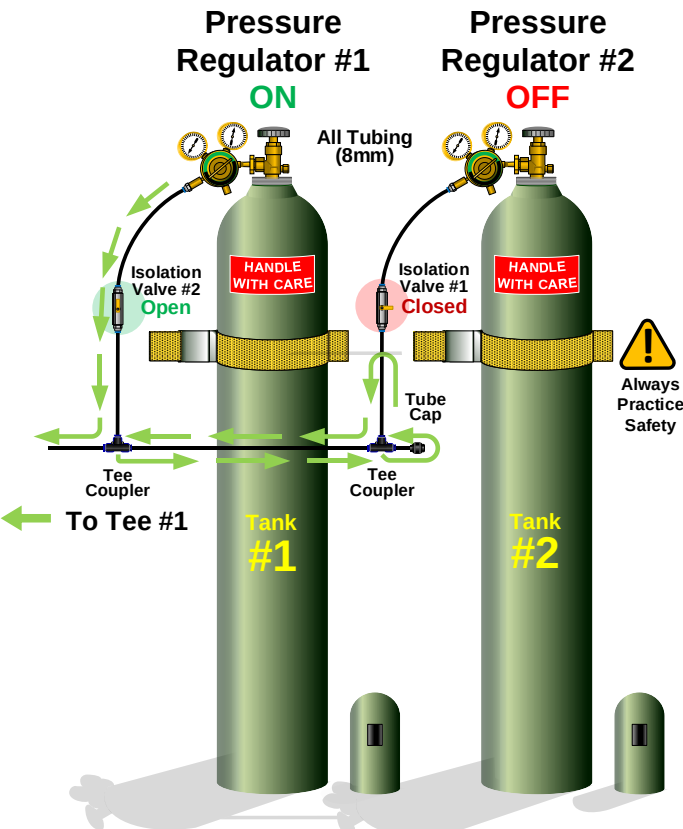

Figure 14
15.4 When you are ready to begin the Fiber Bundle installation operations, first open Isolation Valve #1. Perform normal installation procedures as described in this SRP. **See Fig. 14.**